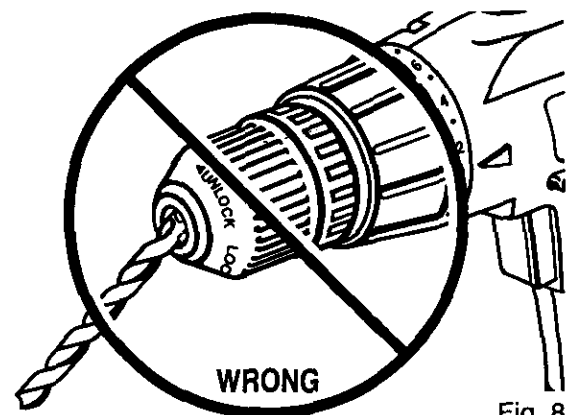

Fig. 8
**WARNING:** Make sure to insert drill bit straight into chuck jaws. Do not insert drill bit into chuck jaws at an angle and then tighten, as shown in figure 8. This could cause drill bit to be thrown from drill, resulting in possible serious personal injury or damage to the chuck.